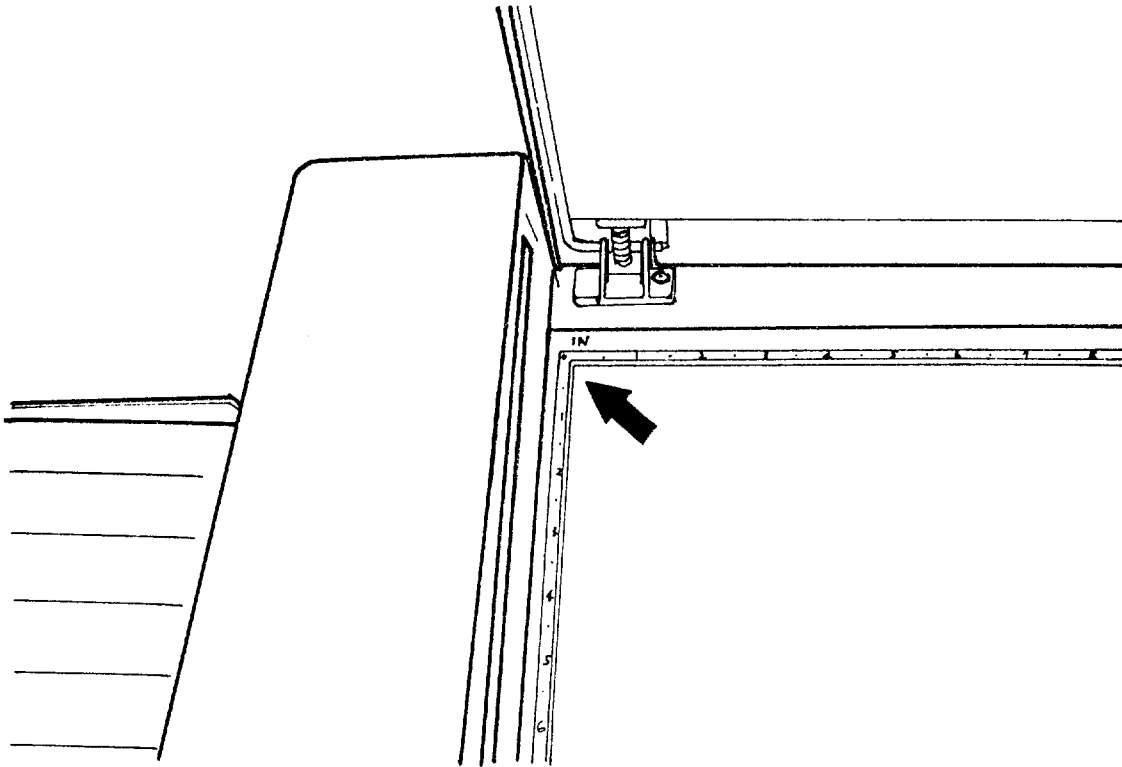

Figure 3.3 Flat-bed scanning (II)
3. Position the document so that its left side and top edge are in line with the ruler guides next to the scanner glass, as shown in Figure 3.3.